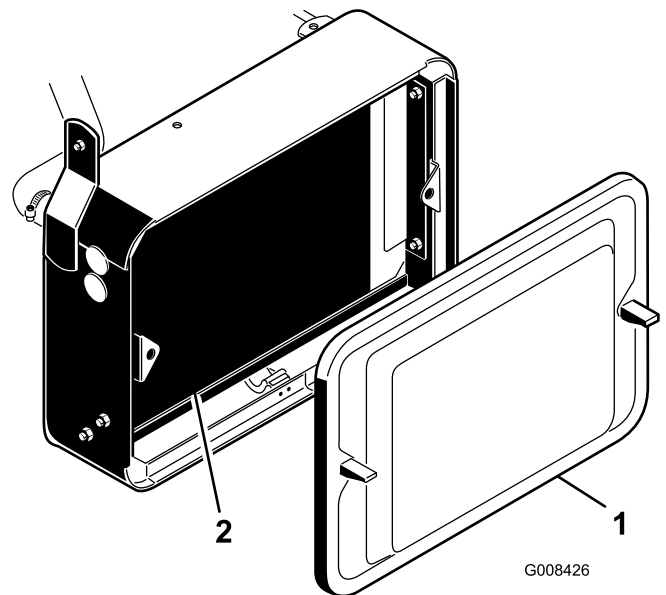

Figure 44
1. Remove the radiator screen (Figure 44).